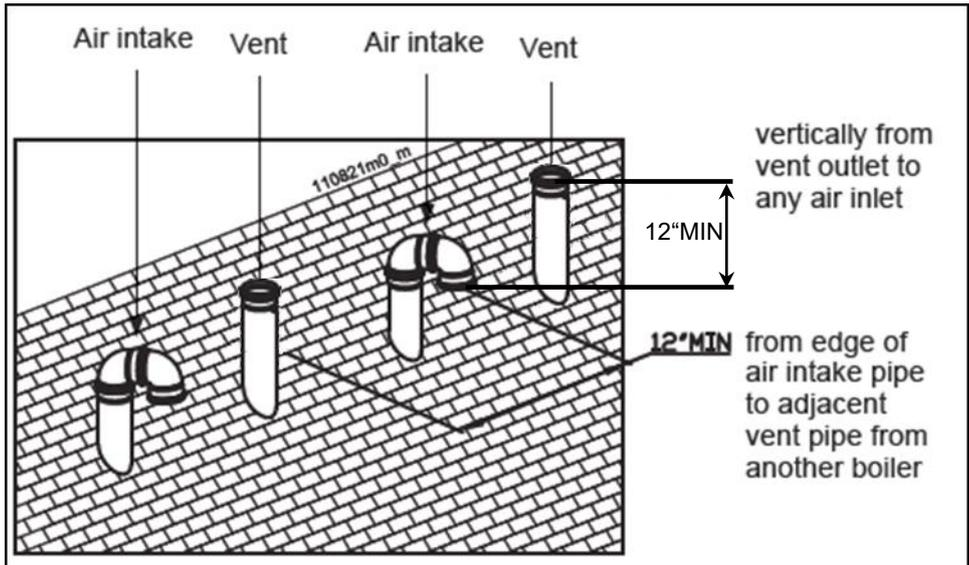

Figure 10.27
1. When terminating multiple boilers, terminate each vent/air connection as described in this manual (Figure 10.27). The use of vent / bird screens is optional.
2. Place roof penetrations to obtain minimum clearance of 12 inches (305 mm) between outside edge of air intake and exhaust vent of another boiler for U.S. installations (see Figure 10.27). For Canadian installations, provide clearances required by CAN/CSA B149.1 Natural gas and propane installation code.